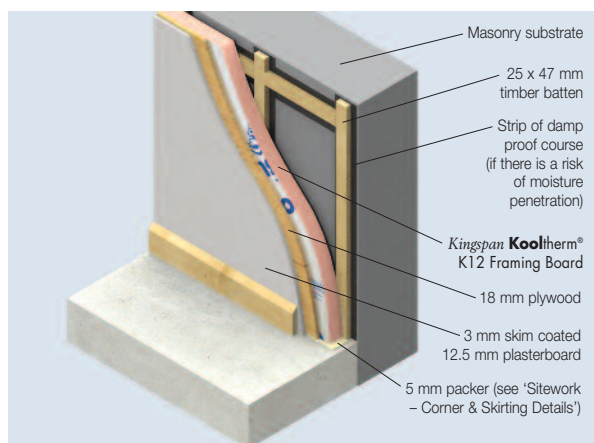

Figure 7
- Alternatively, where there are to be extensive heavy internal fittings, the construction outlined in Figure 7 can be adopted.